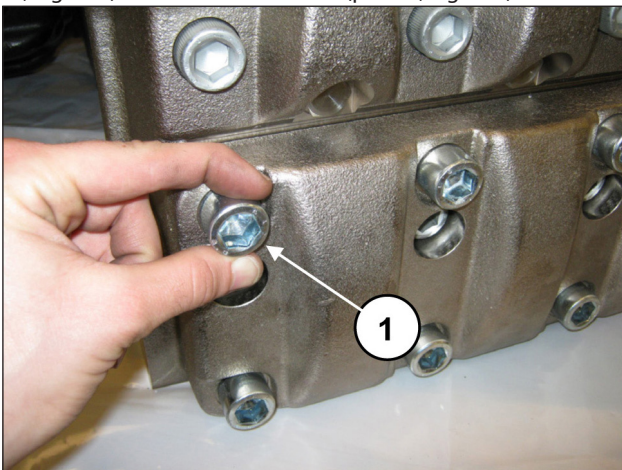
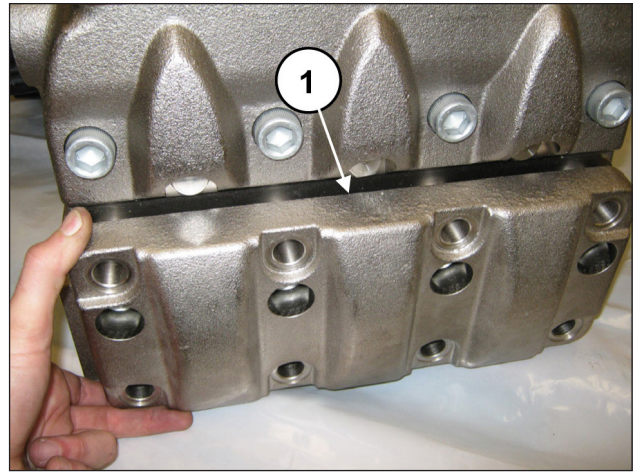

Fig. 138
Fig. 139
Unscrew the 8 M18x65 screws of the suction valves cover (pos. ①, Fig. 138) and remove the cover (pos. ①, Fig. 139).